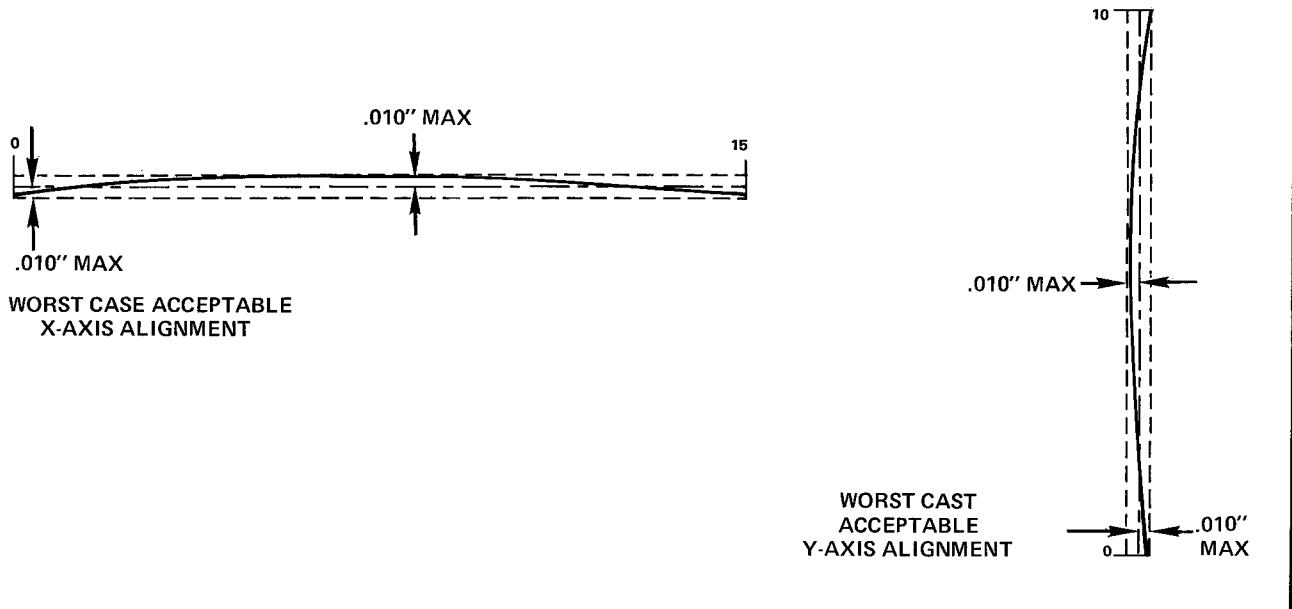

FIGURE 3-20. WORST CASE ACCEPTABLE ALIGNMENT (X-AXIS AND Y-AXIS)
- i. Press FMT ↓. Line drawn should not deviate from the Y axis grid lines (0.01 in. max). Move lower end of arm to right or left to effect alignment (see Figure 3-20).
- e. Enter 7500 into X register of calculator, 0 into Y register and press FMT \downarrow . If line drawn is not parallel to X axis, move one end of paper alignment bar up or down to effect alignment (0.01 in. max). (See Figure 3-20.)